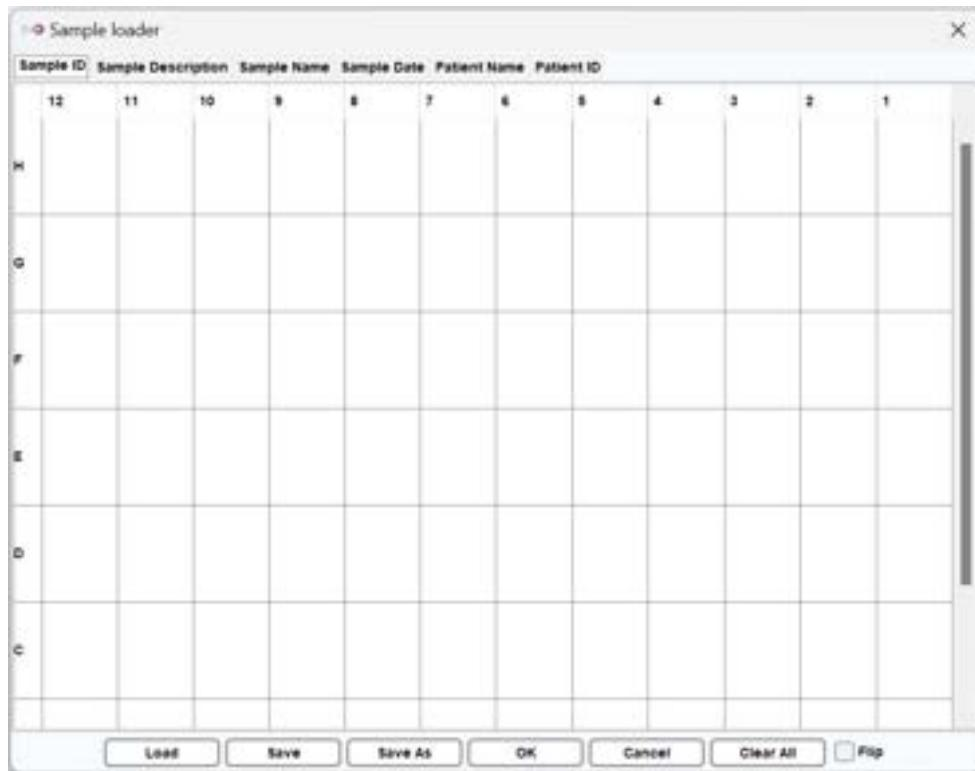

Figure 21 Sample Loader Window
Notes for samples can be edited on the Sample Loader window (Figure 21). After clicking on **Edit**, the Sample Loader window will appear on the screen. Use the **Load** button to enter multiple sample descriptions, the **Clear All** button to delete all sample information, and the **Save** button to save the edited sample information. After entering the required information such as time and serial number, click **OK** to start the process.
***Note:** The information of the samples in the excel sheet must follow the sequence shown in Figure 21. An example file can be found in the installation directory. The default workspace is C:\Users\<username>\Q-Analyzer\Sample.